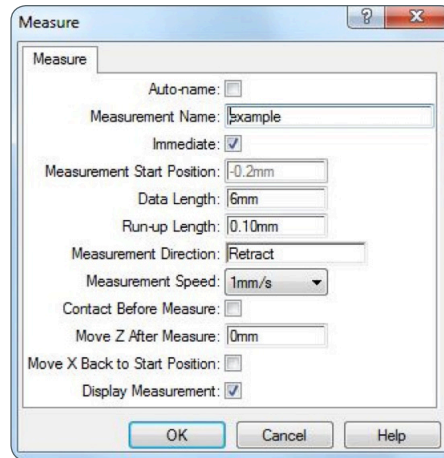

Figure 7: Fill in the data in the 'Measure' box
- 3 Fill in the 'Measure' box that opens up. Decide on a measurement length that includes the steepest part (see Figure 7).